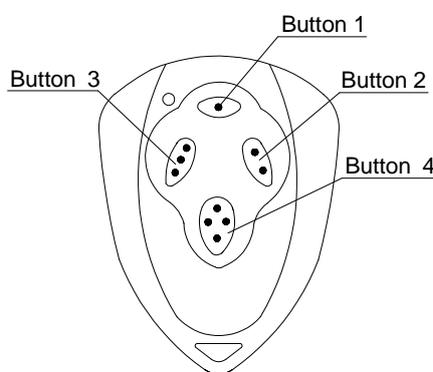

Fig.12
- **Adding extra remote controls (learn):** Press the button ‘LEARN’ about 1 second(See Fig.12 terminal 9) on the control board, release the button till the ‘LED2’ turns on, then press the same remote control button which you want to use twice, the ‘LED2’ will flash several times and then turn off, The learning process is finished.
- The remote control works in three channel mode. See Fig.12. Button 1 - open the gate, button 2-close the gate, button 3- stop the gate, button 4- pedestrian mode